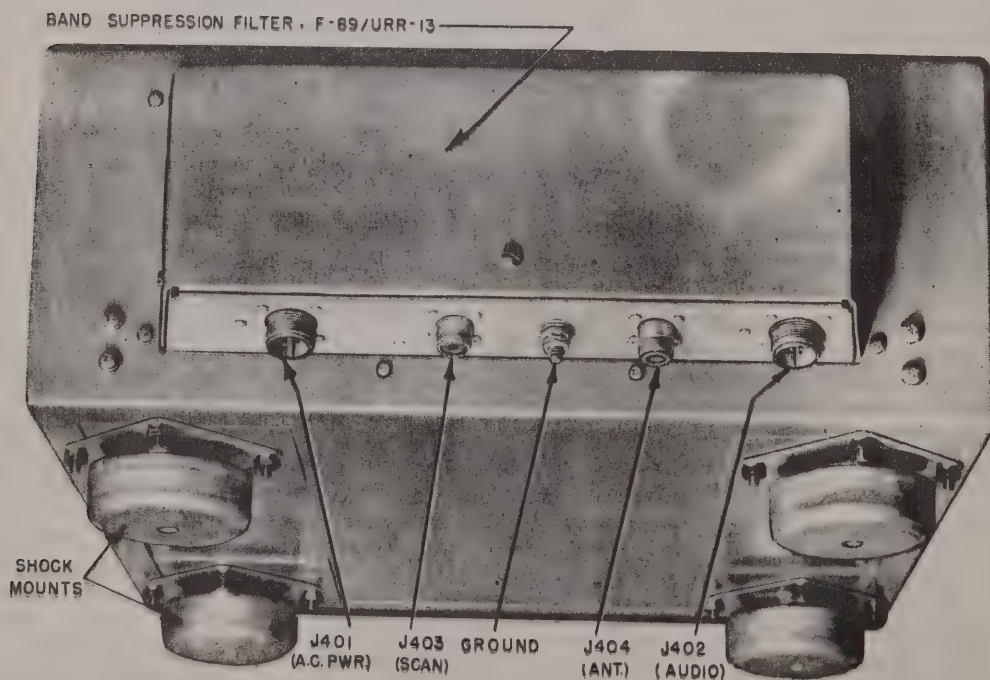

Figure 1-3. Rear View (from below) Showing A.C. POWER, SCAN, ANT, and AUDIO Connectors on Underside of Band Suppression Filter F-89/URR-13
g. CABLE FILTER ASSEMBLY*.—The cable filter assembly appears in figures 1-3, 1-11 and 3-3. It contains r-f noise filter circuits for the audio output and power input circuits, and provides through connections from the receiver proper to the antenna input and scan channel output circuit connectors. The filter parts are mounted on a base plate which is attached to the rear wall of the receiver cabinet by means of snap-slide fasteners located on the inside of the cabinet. The filter cover, when attached to the base plate, constitutes an r-f shield. The A.C. POWER input, AUDIO output, SCAN channel output and ANTENNA transmission line input connectors (P401-P04), to which all external connections except head-